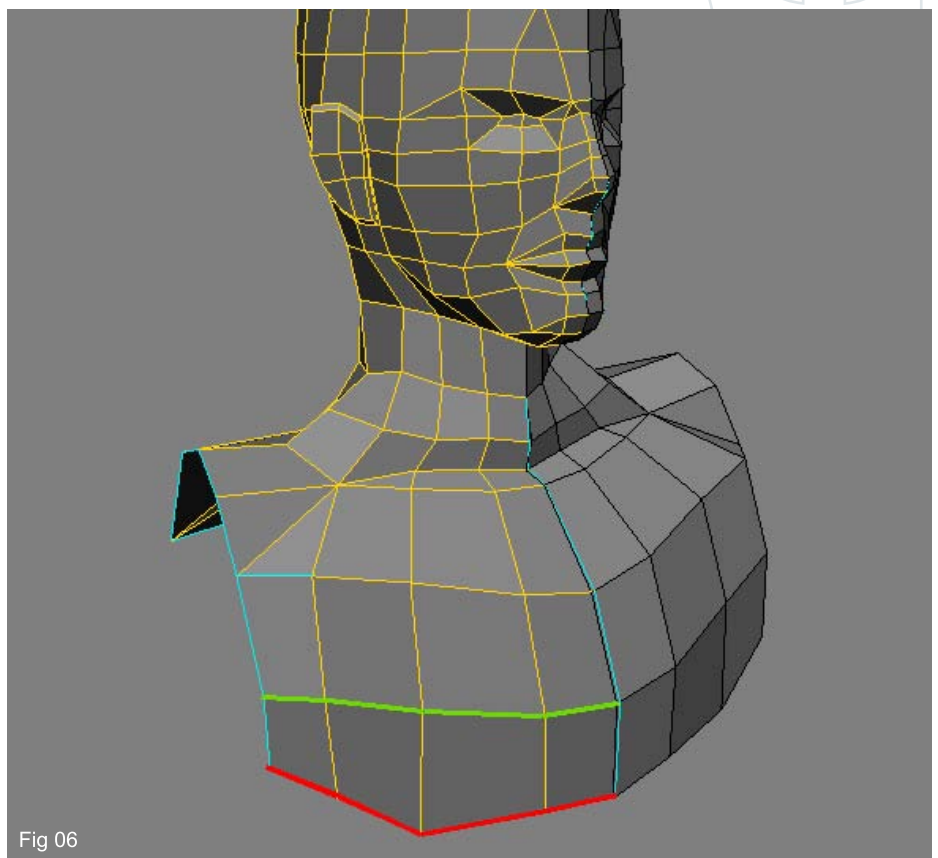

Fig 06
6. We can now continue to extrude the bottom edges (in green in Fig06) to create the chest.